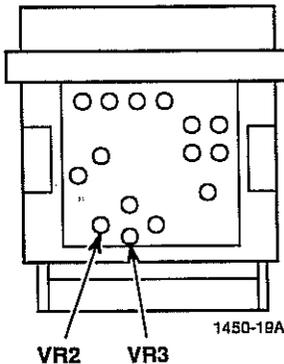

Figure 3-14.
- b. Adjust VR2 (Figure 3-14) for  $0.10 \text{ VDC} \pm 0.05 \text{ VDC}$ .
- b. Adjust VR3 (Figure 3-14) for  $0.10 \text{ VDC} \pm 0.05 \text{ VDC}$ .